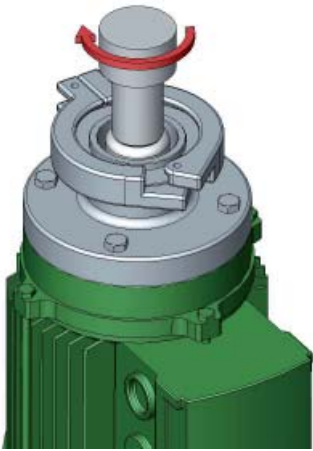

fig 5.4.1
2. Rotation direction. The proper rotation direction is clockwise see fig 5.4.1.